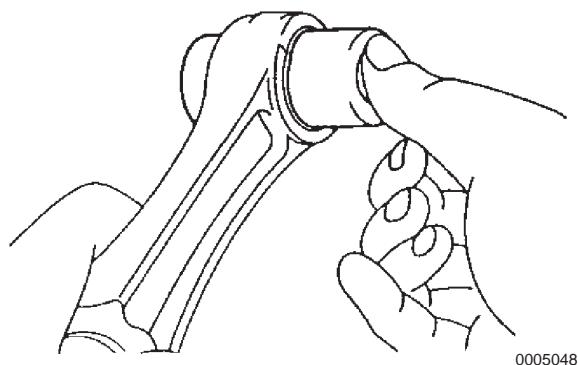

Figure 5-125
16. Check the piston pin engagement at room temperature. Apply engine oil to the piston pin and press it into the connecting rod by hand (**Figure 5-125**).